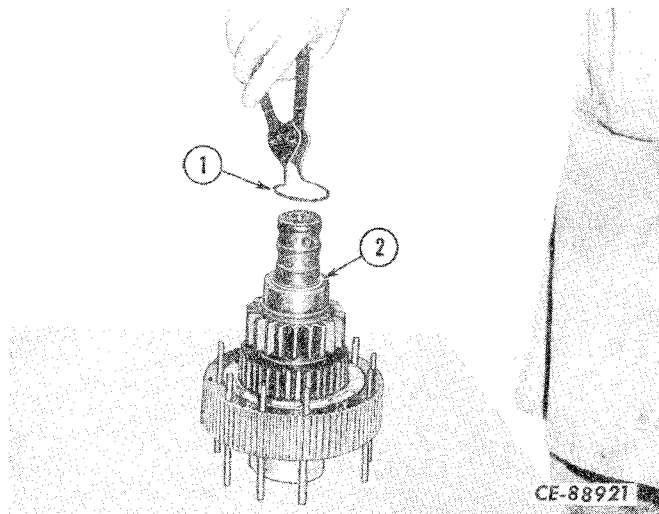

Figure 4-117
Remove the bearing retainer snap ring (1, Fig. 4-117) from the groove in the shaft (2).